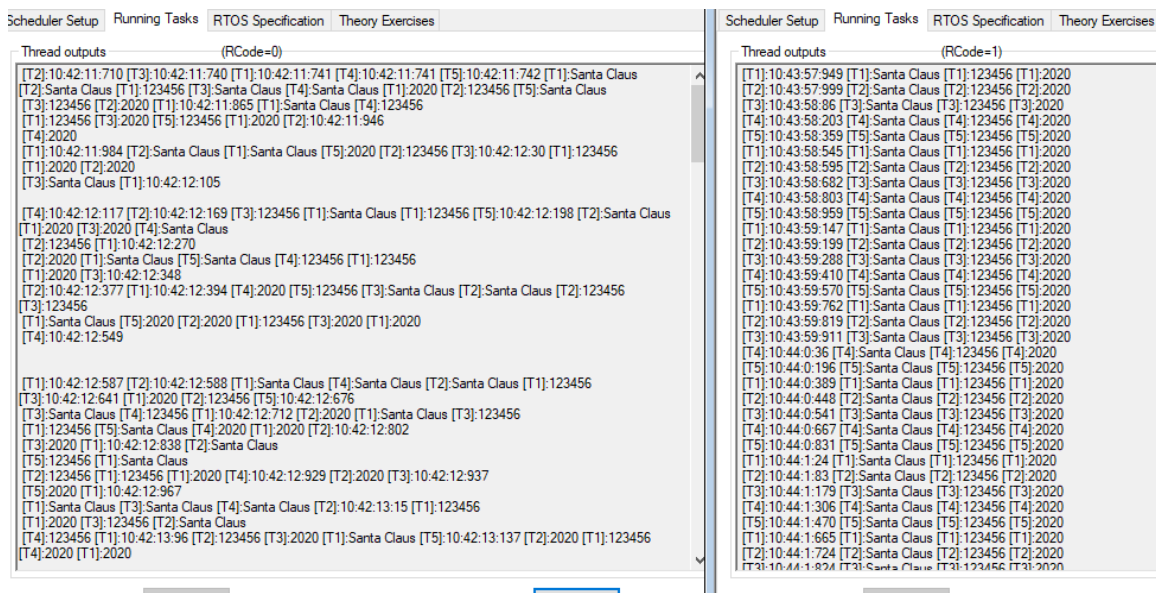

Figure 5: The output from the threads of the multitasking systems, running code 0 to the left and running code 1 to the right.
Figure 5 shows the output from the threads running in this small multitasking system. This small multitasking system is using the standard Windows operating system scheduler together with all the other running applications for both running codes. The threads in this small multitasking system are using one single common resource.
30. (1%) Discuss the usage of synchronization for running code 0 and running code 1 in your “Multitasking and real-time” assignment, as shown in Figure 5.
31. (2%) Running code 0, the left part of Figure 5, has a faster execution time than running code 1. Why?
32. (3%) Use pseudo coding to show how a thread can share a common resource as shown in Figure 5. Focus only on the code section for sharing the common resource, no need to include all the code for the thread. Make your own assumption for the type of resource.